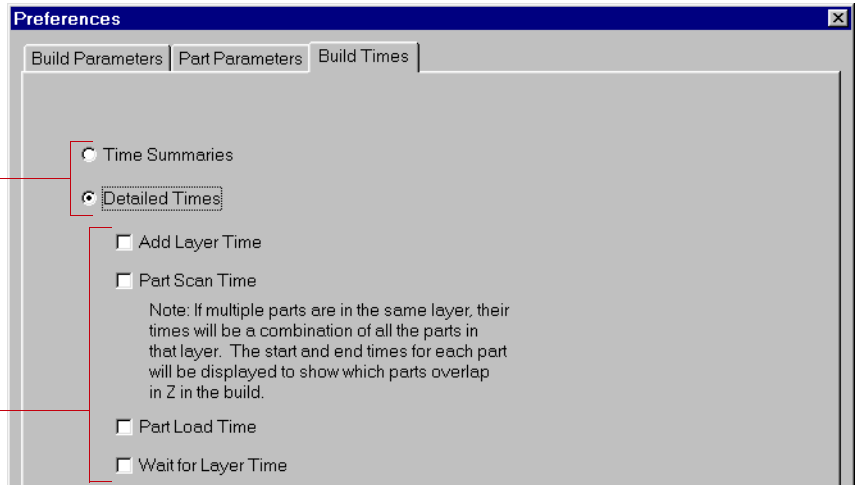

Figure 27. Preferences Dialog Box
3. Select the information you want in your report in the Preferences dialog box. See Figure 27., “Preferences Dialog Box,” on page 49.
The available options include build parameters, part parameters, and build times. See Figure 27 for more information on build times.